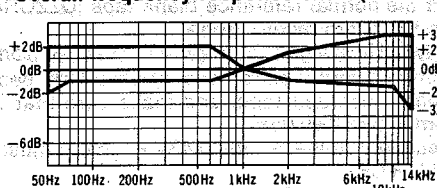
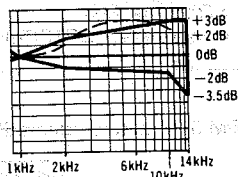
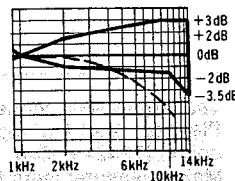

Fig. 13
Fig. 15
Fig. 16
6. Playback the signals recorded in step 5, and check if the frequency response curve is within the limits shown in the overall frequency response chart for normal tapes (fig. 13). (If the curve is within the charted specifications, proceed to steps 7, 8 and 9.)
When the curve exceeds the overall specified frequency response chart (fig. 13) as shown in fig. 15.
- 2) Repeat steps 5 and 6 for confirmation (Proceed to steps 7, 8 and 9 if the curve is now within the charted specifications as shown fig. 13).
- 3) If the curve still exceeds the specifications (fig. 13), increase bias current further and repeat steps 5 and 6.
When the curve falls below the overall specified frequency response chart (fig. 13) as shown in fig. 16.
- 3) If the curve still falls below the charted specifications (fig. 13), reduce bias current further and repeat steps 5 and 6.